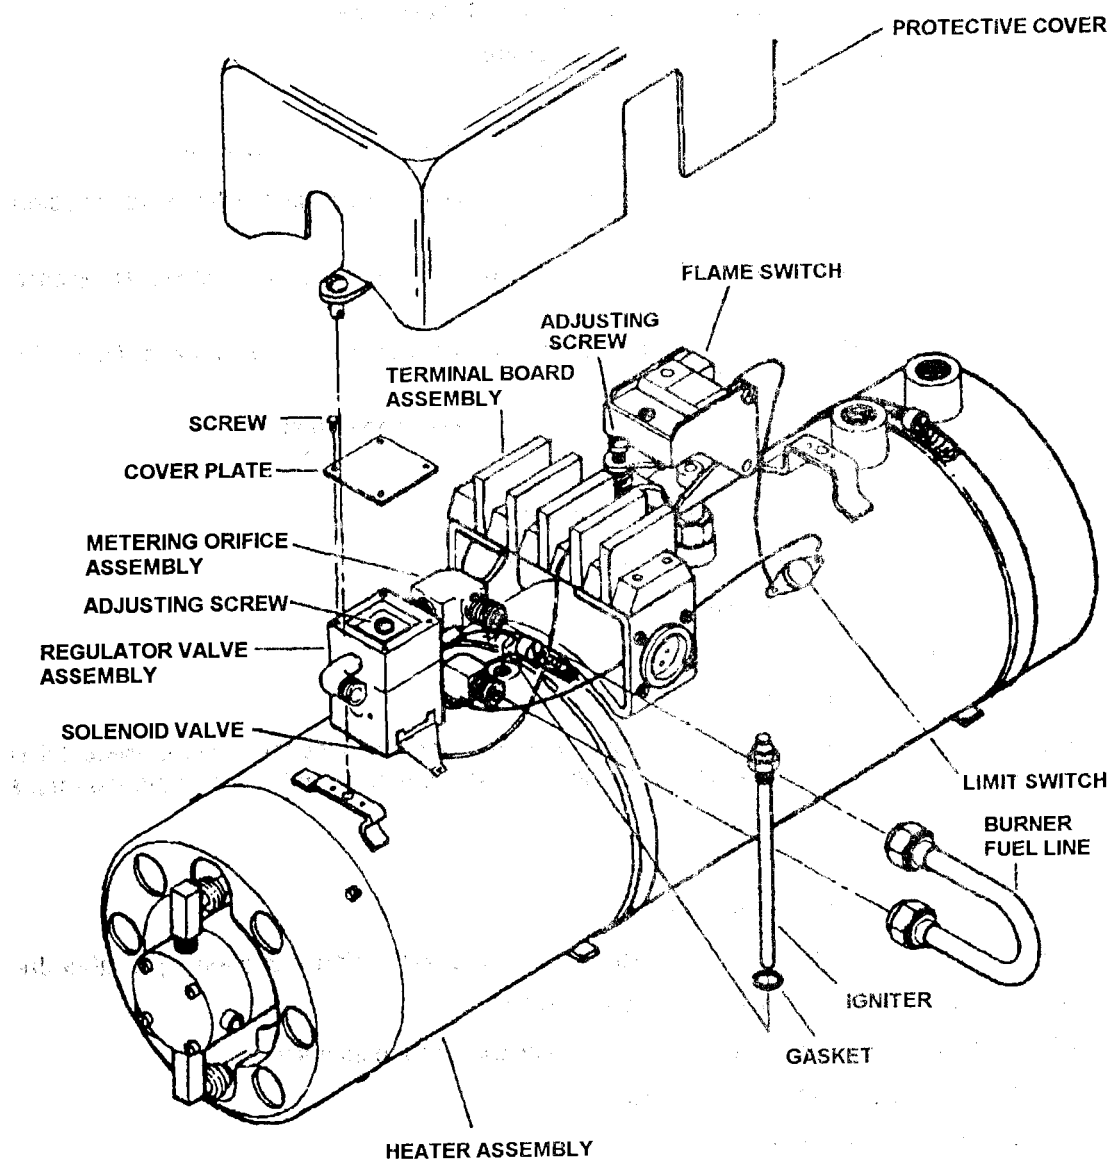

Figure 5-4. Fuel Burning Winterization Kit Heater Assembly Maintenance
- (1) Service regulator valve assembly screen, sintered filter, and metering orifice assembly (paragraph 5-7b. above). Do not install burner fuel line or protective cover.
- (2) Tag and disconnect electrical lead to igniter assembly (Figure 5-4).
- (3) Remove screws and cover plate to expose brass adjusting screw.
- (4) Connect one end of burner fuel line onto metering orifice assembly and position the other end to drain into a graduated container.
- (6) With fuel inlet line connected and fuel at the valve, place heater assembly into operation (paragraph 2-22).
- (7) Using a stopwatch, time the fuel flow into graduated container. Flow should measure 1/2 pint in 10 to 12 minutes.
- (8) If flow is not within specified limits, rotate adjusting screw (Figure 5-4) to obtain proper flow rate.
- (9) Stop heater assembly operation (paragraph 2-22).
- (10) Install burner fuel line (Figure 5-4).
- (12) Install igniter assembly electrical lead.
- (13) Install heater assembly protective cover.
- (14) Remove jumper wire from thermostat switch.
- (1) Remove protective cover (Figure 5-4).
- (2) Using a suitable screwdriver, rotate flame switch adjusting screw counterclockwise until heater motor starts.
- (3) Rotate adjusting screw clockwise until motor stops.
- (4) Give adjusting screw an additional 1/2 (180 degrees) turn.
- (5) Reinstall protective cover.
- (1) Removal.
- (a) Remove protective cover (Figure 5-4).
- (2) Cleaning, Inspection, and Testing.
- (3) Installation.
- (a) Install assembly into heater assembly (Figure 5-4).
- (2) Visually inspect terminal board assembly for insecure mounting, loose electrical connections, stripped or otherwise damaged threads, cracks, corrosion, and burns or other damage.
- (3) Install protective cover.
- (2) Visually inspect limit switch for cracks, corrosion and evidence of shorting or other damage.
- (3) Tag and disconnect electrical leads to switch.
- (4) Using a multimeter or similar device, check switch for continuity.
- (5) Reconnect electrical leads to switch.
- (6) Install protective cover.
- (7) If limit switch failed continuity test, report to higher level maintenance.